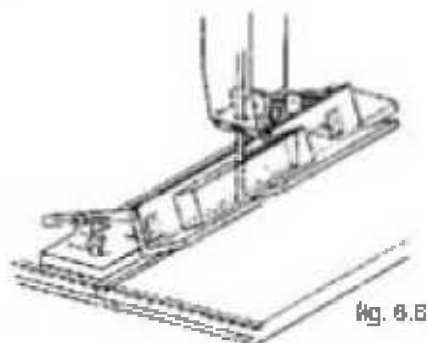

Fig. 6.6
6.6 CUTTING OF WEDGE-SHAPED LENGTHS FIG. 6.6